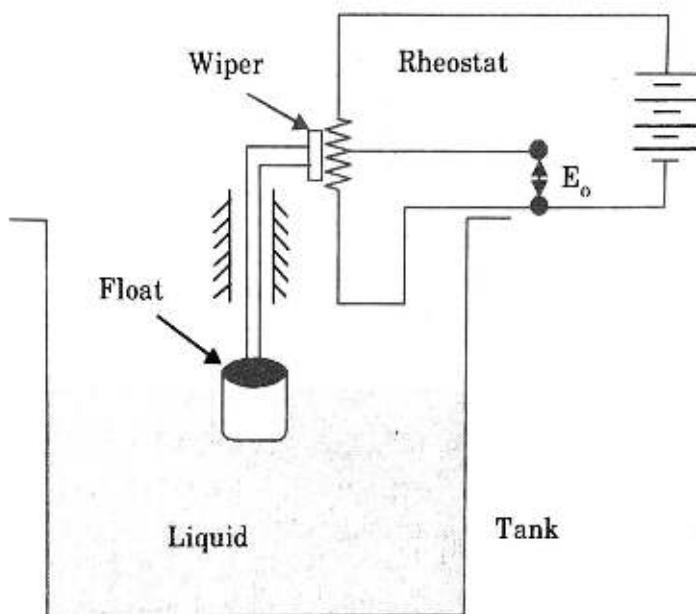

Fig. 5.21.1.
- i. Fig. 5.21.1 shows the schematic diagram of the float-actuated rheostat (resistive) device.